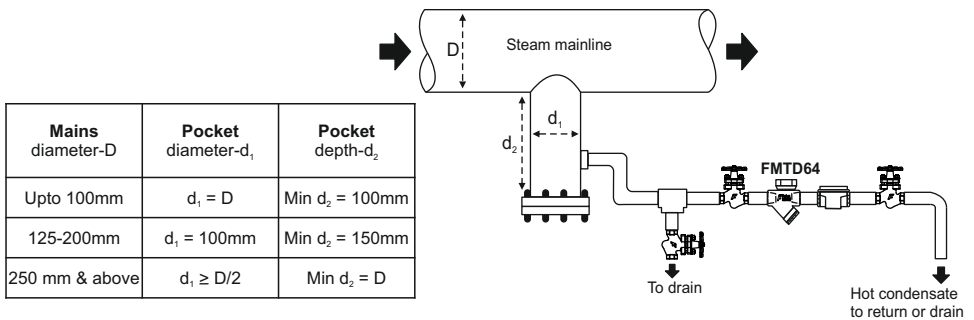

Figure 4 : Recommended installation of Forbes Marshall Thermodynamic Trap on mainline
5. Installation Guidelines: [Refer figure 4]